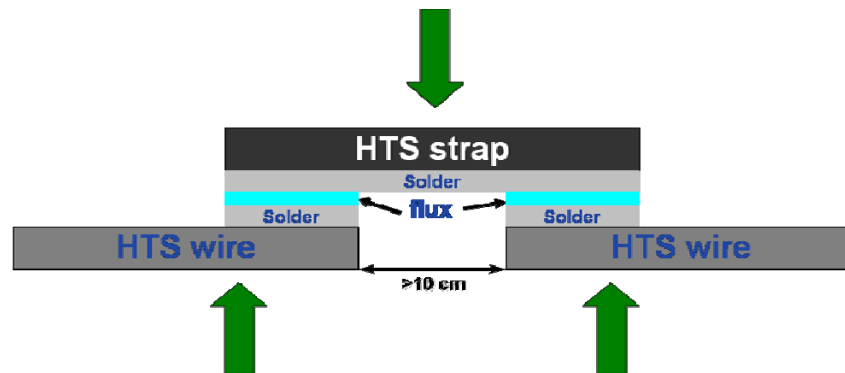

Figure 9. Strap Splice Preassembly
- Position the two HTS wires together with the tinned surfaces facing up and desired gap between them. Place the strap wire on top of the two wires so that it bridges the gap as shown below in Figure 9.